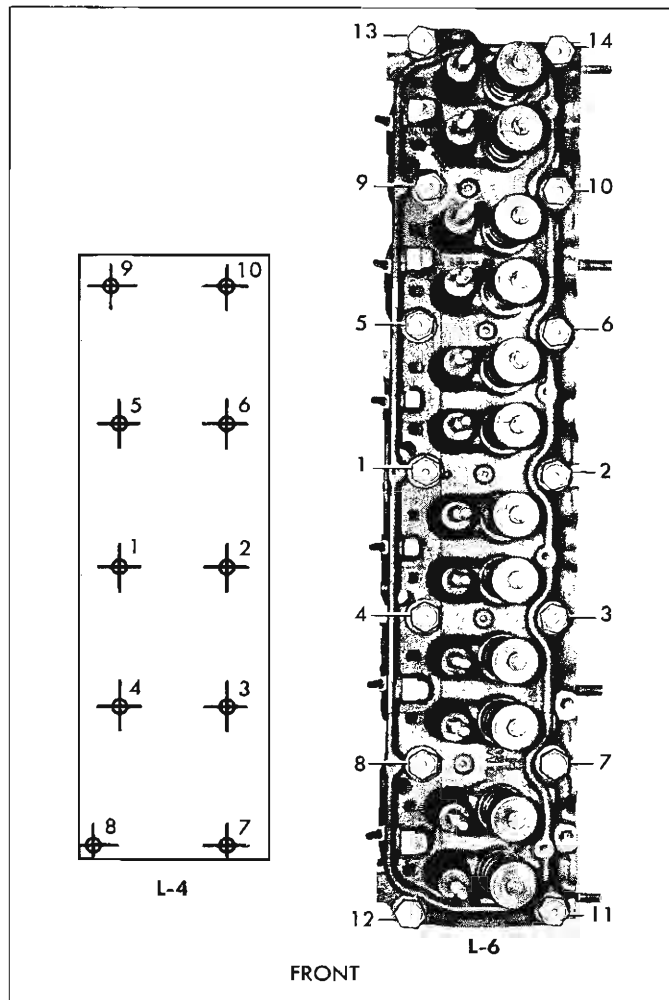

Fig. 6L—Cylinder Head Torque Sequence
5. Tighten cylinder head bolts a little at a time, in the sequence shown until specified torque is reached (fig. 6L).